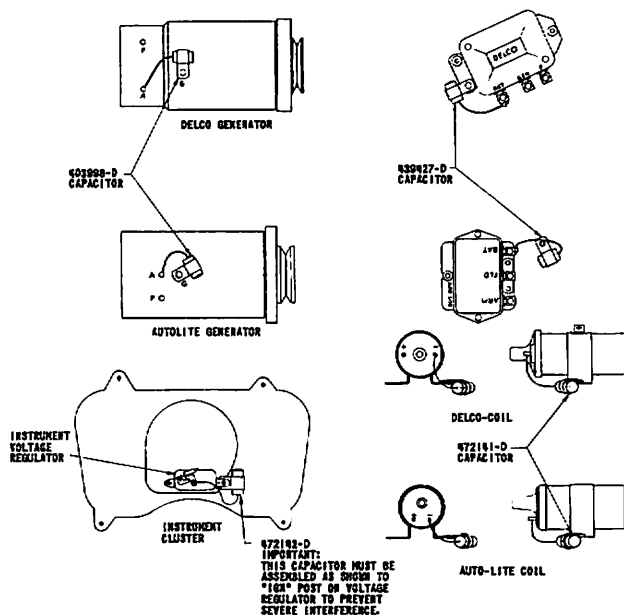

Figure 4
**IMPORTANT:** Care in performing these Operations will result in satisfactory elimination of ignition noise. Be sure that all condenser cases make good ground connection and that all connections are tight. See figures 4 and 5.